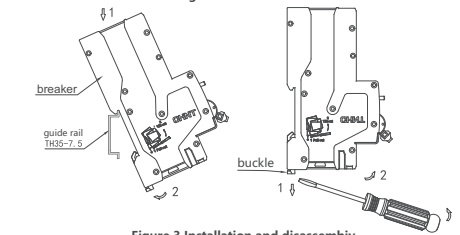

Figure 3 Installation and disassembly
7.3.2 Put the circuit breaker into the rail at the upper end of the installation guide rail, and push the buckle end of the circuit breaker into the guide rail, see Figure 3.
7.3.3 Remove the circuit breaker by pulling the buckle. See Figure 3 for the schematic diagram of the disassembly.